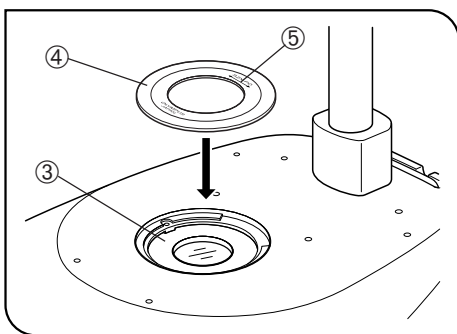

Fig. 12
- Place the polarizer ④ in the polarizer mounting hole ③ so that the arrow ⑤ comes on the top.
- ★ Place the polarizer so that the arrow ⑤ points the lateral direction (i.e. the direction of the polarizer oscillation) as shown in Fig. 12.